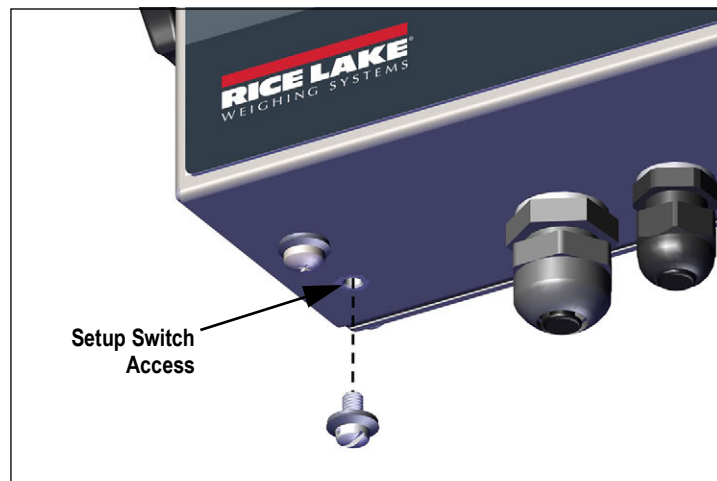

Figure 4-1. Setup Switch Access
1. Access setup mode by pressing the setup switch (Figure 4-1 on page 32). $\overline{C}OnF, \overline{C}$ displays.